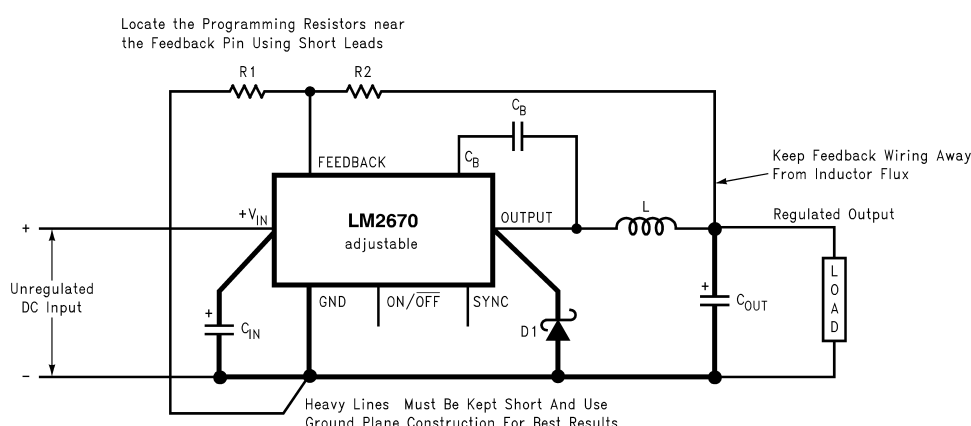

Figure 9. Basic circuit for adjustable output voltage applications
Step 2: Select an LM2670S-ADJEP. To set the output voltage to 14.9V two resistors need to be chosen (R1 and R2 in Figure 9). For the adjustable device the output voltage is set by the following relationship: